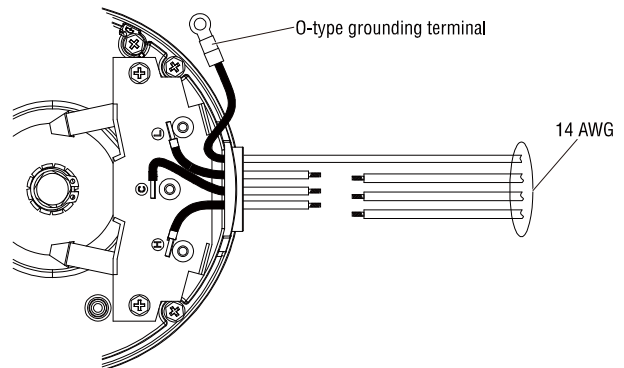

FIG.2
- Using multi-function crimping pliers to press o-type grounding terminal which connected 14 AWG. (FIG. 2)